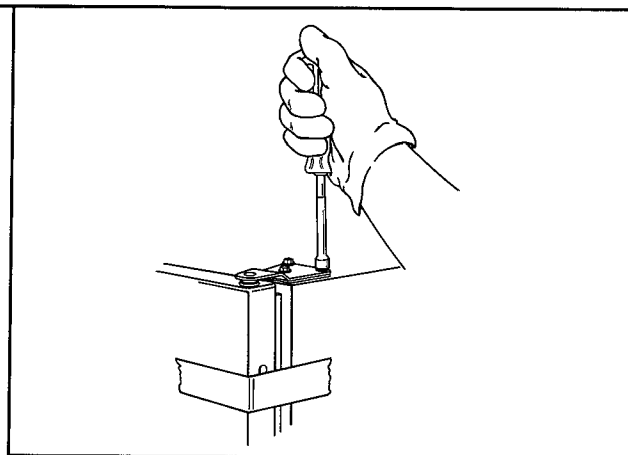

Figure 9
- a. Remove three 5/16" hex head screws with a 5/16" hex nut driver. See Figure 9.